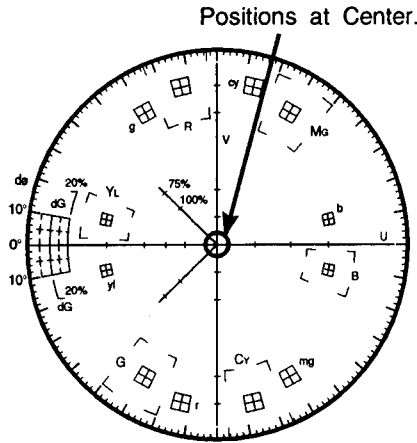

Fig. 5-40
- Adjust data with the **ARROW** keys so that vector positions at the center of the Vectorscope as shown in Fig. 5-40.